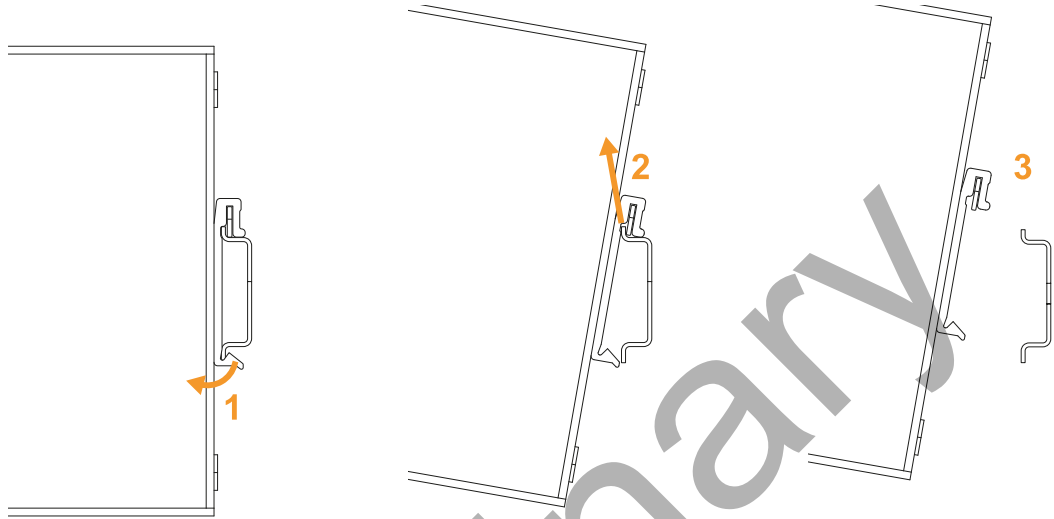

Fig. 11 - How to remove the product from a DIN Rail
1. Push the product downward and release the lower hooked side of the DIN rail mounting clip (the clip) from the lower edge of the DIN rail, see Fig. 11 below, part **1**
2. Lift the product upward and release the upper side of the clip from the upper edge of the DIN rail, see Fig. 11 below, part **2**.
The product is removed from the DIN rail, see Fig. 11 below, part **3**.